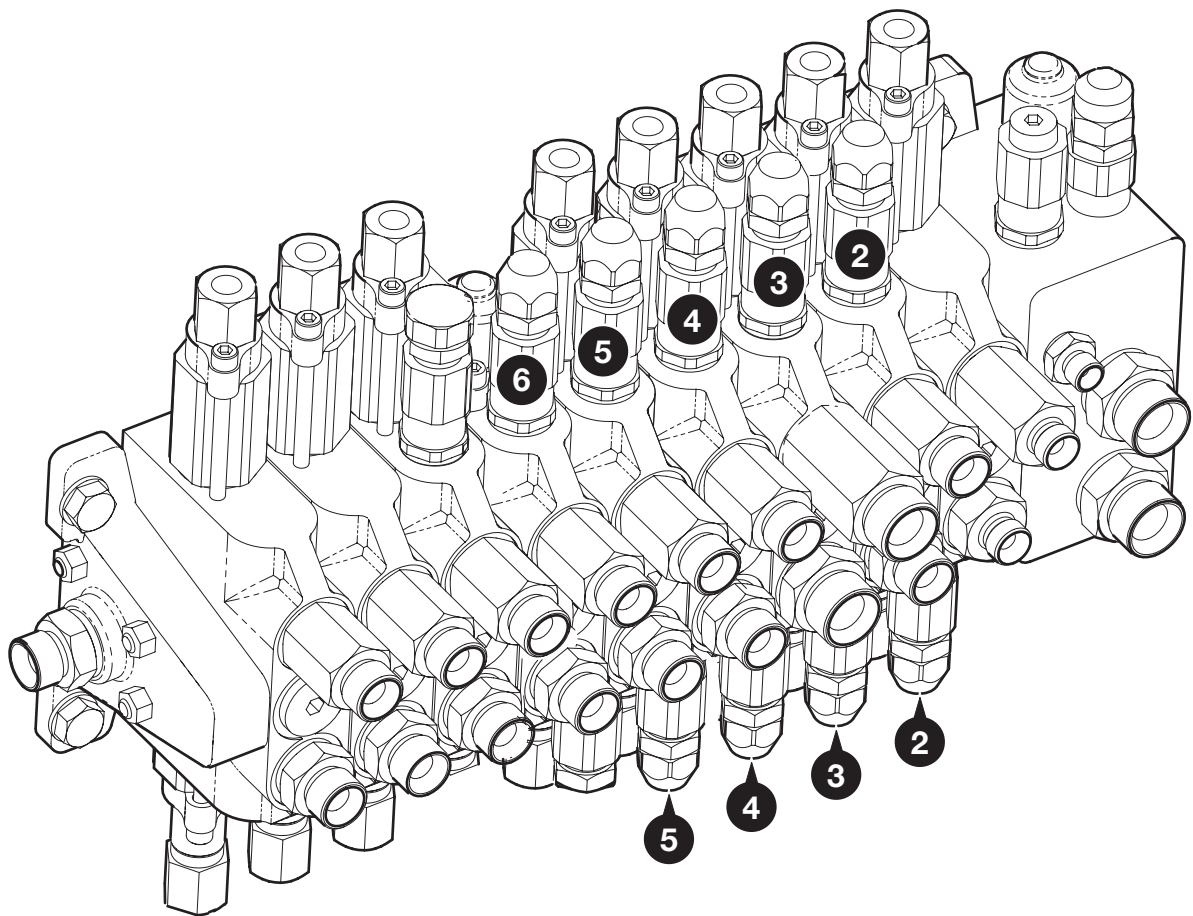

Fig 1.
- 3 Remove the four bolts, nuts and washers **A** securing the rotary coupling to the undercarriage and lift clear of the mainframe. → Fig 1. \(□ 1-131\)